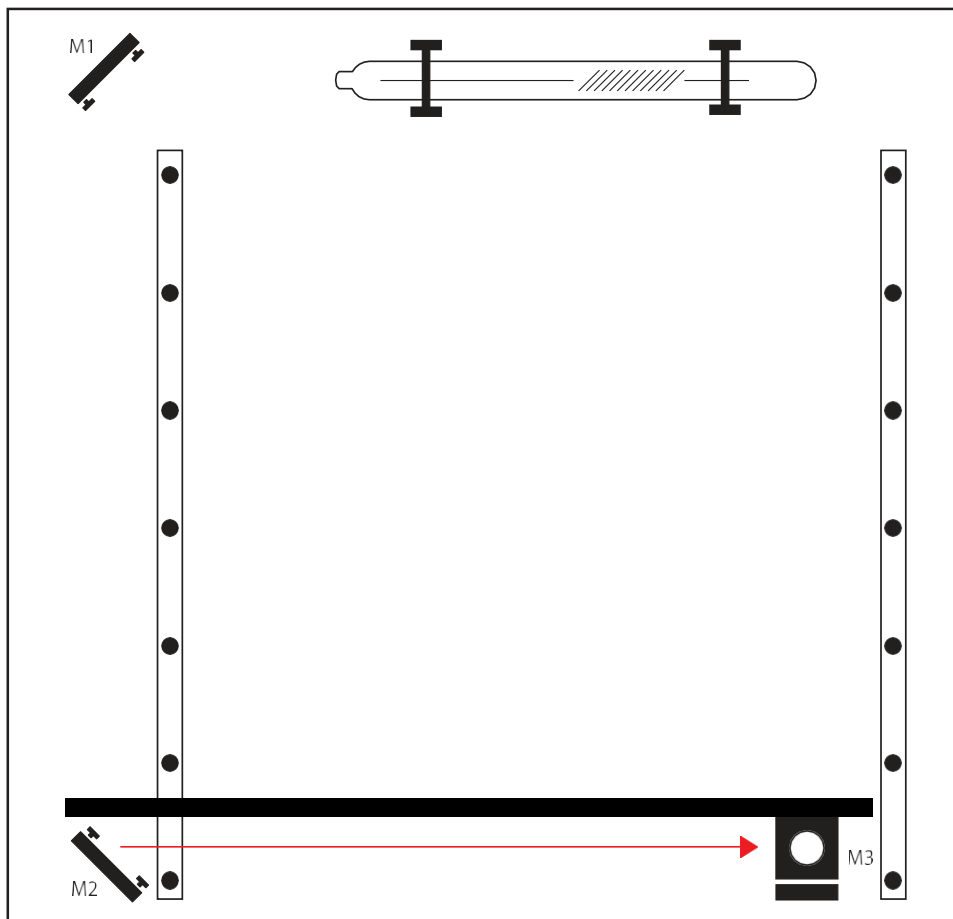

Figure 4.10
**9. Re-Position X-Gantry back to “Far”:** Jog the laser head to the right position where you did the first test fire (see Figure 4.10).